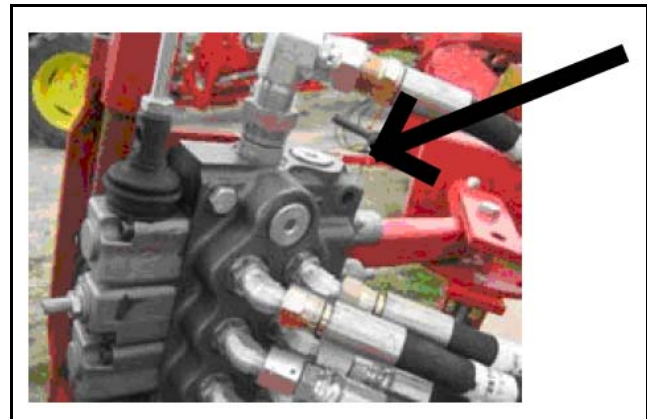

Figure 3.74
2. Using a 5/16 hex wrench, remove existing 5/8" long plug, see Figure 3.74, on the return side of the valve and replace with a 1" long plug supplied with the valve.